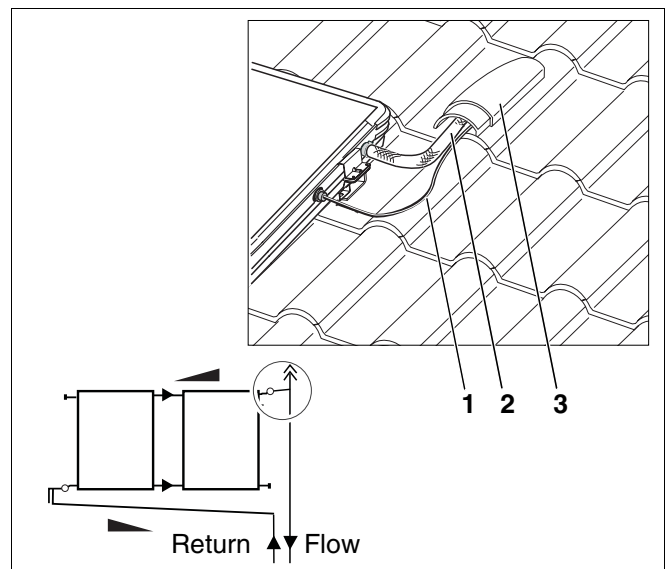

Fig. 42 Laying out flow pipe and sensor cable
- ▶ On pantile or brick tile roofs feed the flow line and the sensor cable (Fig. 42, **Item 1 and 2**) into the attic through an air pantile (Fig. 42, **Item 3**) or an antenna barrel.